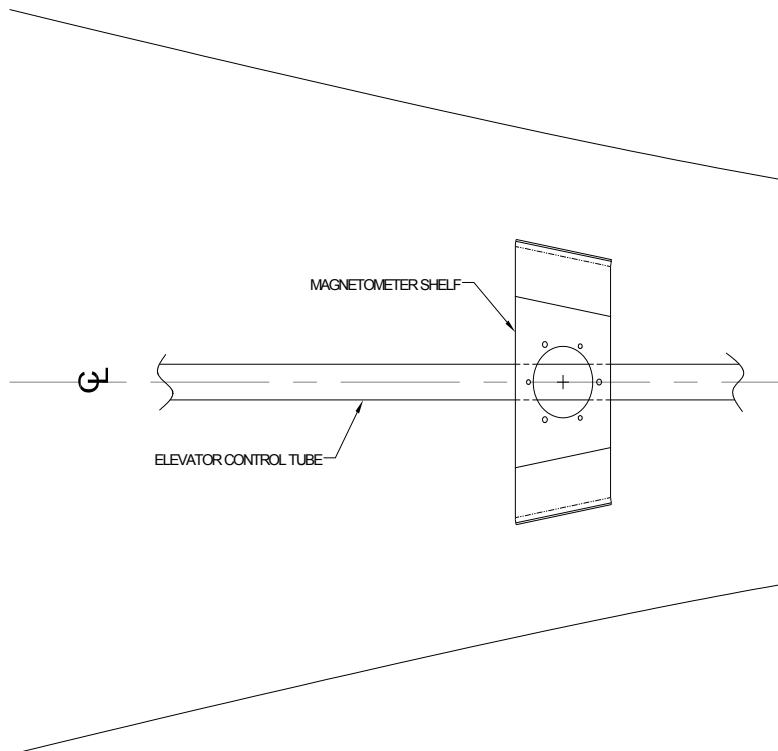

Figure C-24 Alignment Of Magnetometer Cutout With Aircraft's Forward Direction
6. The shelf installation must be fully cured before proceeding with the magnetometer installation. Using the elevator control tube as the aircraft centerline reference, project a parallel line on to the magnetometer shelf. The parallel line serves as an indication of the aircraft's forward direction, as demonstrated in Figure C-24. The alignment of the magnetometer is critical and needs to be within 0.5° of the aircraft's forward direction.